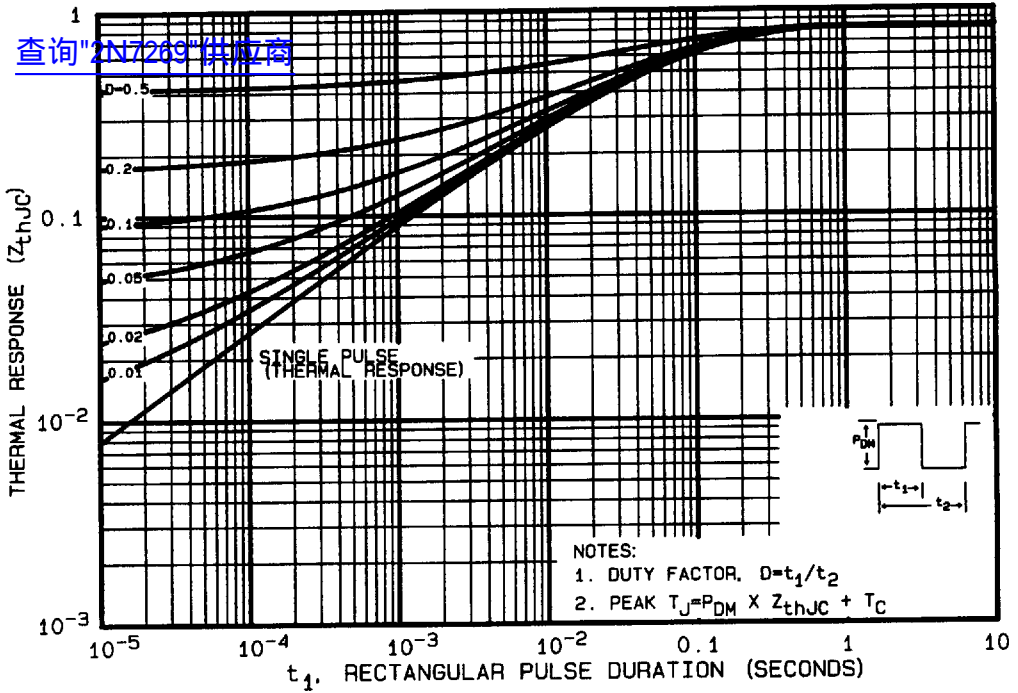

Fig. 26 — Maximum Effective Transient Thermal Impedance, Junction-to-Case Vs. Pulse Duration
② Repetitive Rating; Pulse width limited by maximum junction temperature (see figure 26) Refer to Current HEXFET reliability report
③ @ V_{DD} = 25V, Starting T_J = 25°C, L = 1.9 mH, R_G = 25Ω, Peak I_L = 26A
④ I_{SD} ≤ 26A, di/dt ≤ 190 A/μs, V_{DD} ≤ BV_{DSS}, T_J ≤ 150°C Suggested R_G = 2.35Ω
⑤ Pulse width ≤ 300 μs; Duty Cycle ≤ 2%
⑥ K/W = °C/W